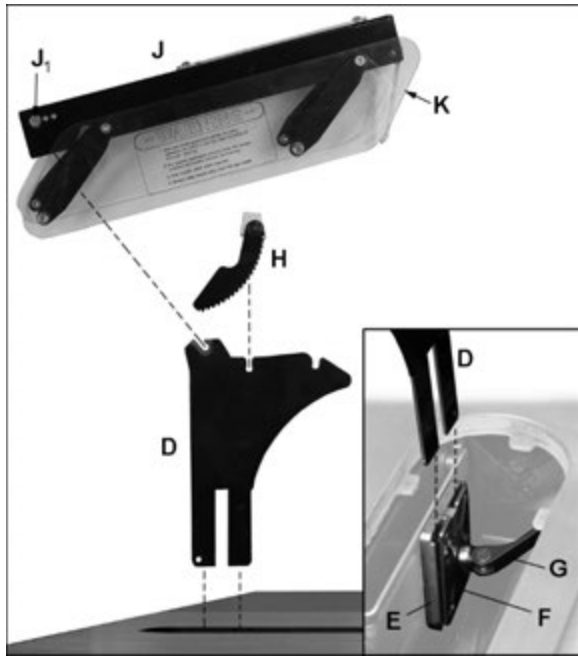

Figure 12
Refer to Figure 12.
3. Pull quick-release lever (G, Figure 12) to open position. The clamp plate (F) is spring loaded and will move away from the bracket (E), leaving a gap.
4. Slide prongs of riving knife (D) into slot between bracket (E, Figure 12) and clamp plate (F), and push riving knife down as far as it will go.
5. Push lever (G) to closed position.
2. Position anti-kickback pawl assembly (H) as shown in Figure 12; the angled side of pawl block faces toward front of saw.
3. Lower pawl assembly onto center notch of riving knife, with pawls straddling knife. Push and hold button on pawl block (on opposite side of that shown in Figure 12), and push pawl block down until it securely engages in notch.
The bracket and clamp plate (E/F, Figure 12) are adjusted at the factory and no further adjustment of the blade guard and riving knife assembly should be necessary. However, **proper alignment is very important.** Before operating table saw, read section 9.6, *Riving knife alignment*, to verify and follow adjustment procedure if necessary.